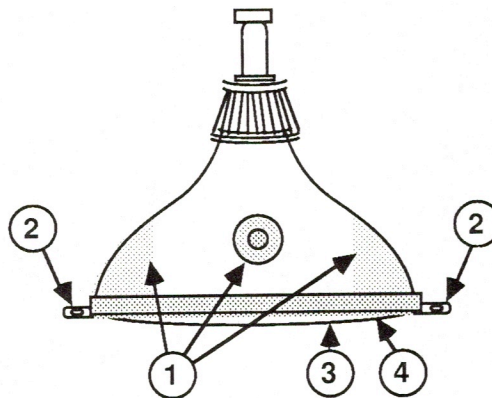

FIGURE 10
Macintosh CRTs have a conductive coating (Figure 10, #1), which is sprayed on. Certain CRTs have been sprayed with too much of this coating, especially near the ears of the CRT (Figure 10, #2). This overspray will occasionally cause them to produce an electrical discharge (arc) to the bezel near the "ears" on the CRT, causing electrical interference to the CPU. This may result in a "Serious System Error" message or "garbage" displayed on the screen. You may also hear "screaming" or "squealing" noises when this occurs. Turning power off and then back on will usually restore normal operation.
2. Place the CRT face down on a workbench so that you are viewing the area shown in Figure 10.
3. Inspect the area around the bottom of the metal band that goes around the CRT. If the CRT has any adhesive tape extending out from under the band (Figure 10, #1), hold the CRT steady with one hand (be careful not to touch the anode) and use an X-acto knife to cut the tape back to the edge of the band. Cut away the tape on all sides of the CRT. If there is no tape extending out, go on to the next step.
4. Check along the bottom edge of the band for any overspray of the conductive spray (Figure 10, #2). Scrub the glass along the edge of the band with a brush that has been dipped in rubbing alcohol.